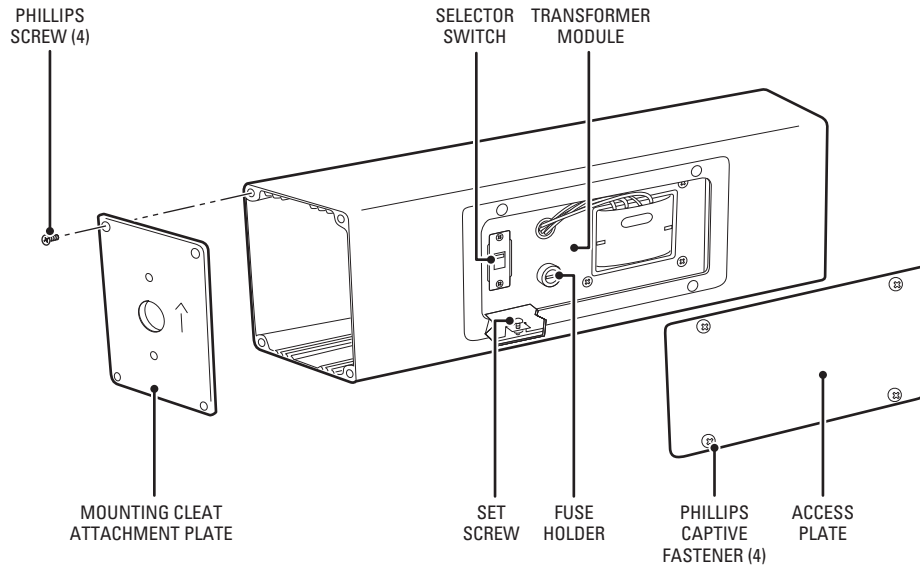

Figure 1. SWM-CA Series Corner Adapter Components
- All components in Figure 1 are included, except the following components that are available only with the SWM-CA24: transformer module, selector switch, fuse holder, and set screw.